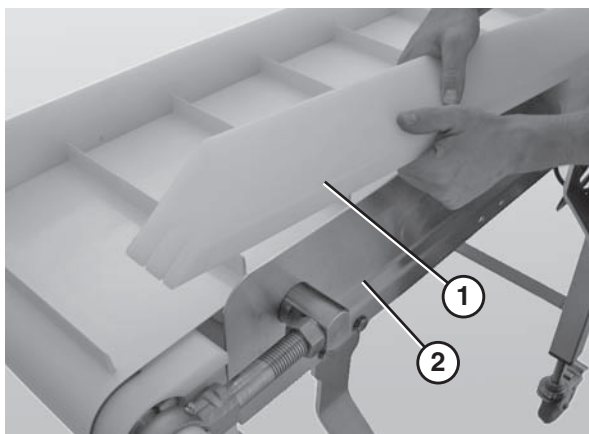

Figure 21
1. Position the guide (**Figure 21, item 1**) so that the flat surface is facing the belt and then slide the guide onto the frame rail (**Figure 21, item 2**).